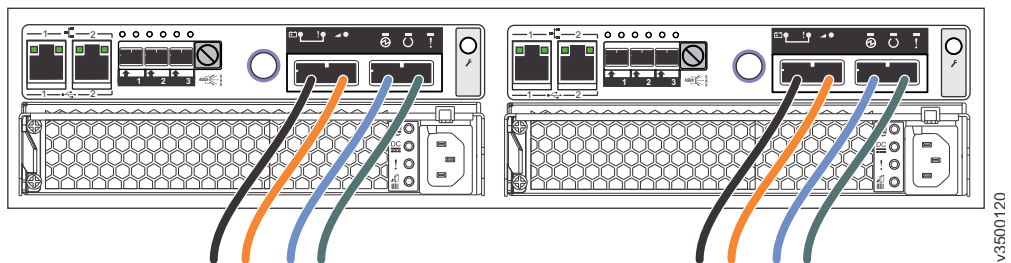

Figure 22. Example configuration with four Fibre Channel cables per canister
2. If you want to connect additional Fibre Channel cables, make sure to connect the same number of cables to each canister. Figure 22 shows an example configuration with four Fibre Channel cables connected to each canister.